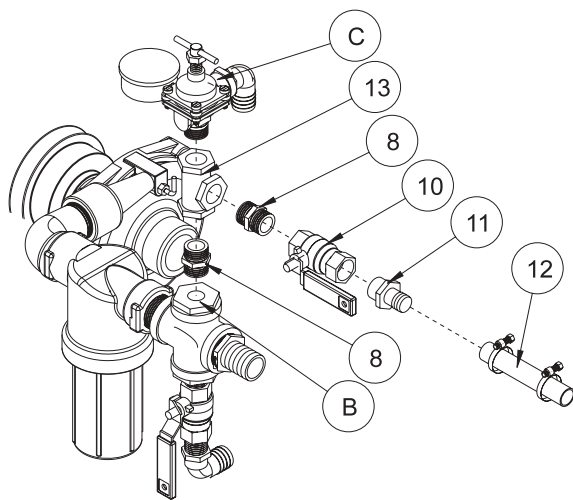

Figure 1
12. **For 1602P and 1607P:** Remove hose from elbow on throttling valve. Remove throttling valve, gauge and elbow. Re-assemble as shown in Figure 1, using parts "C". Assemble throttling valve with gauge and elbow into top of tee and reconnect the hose.